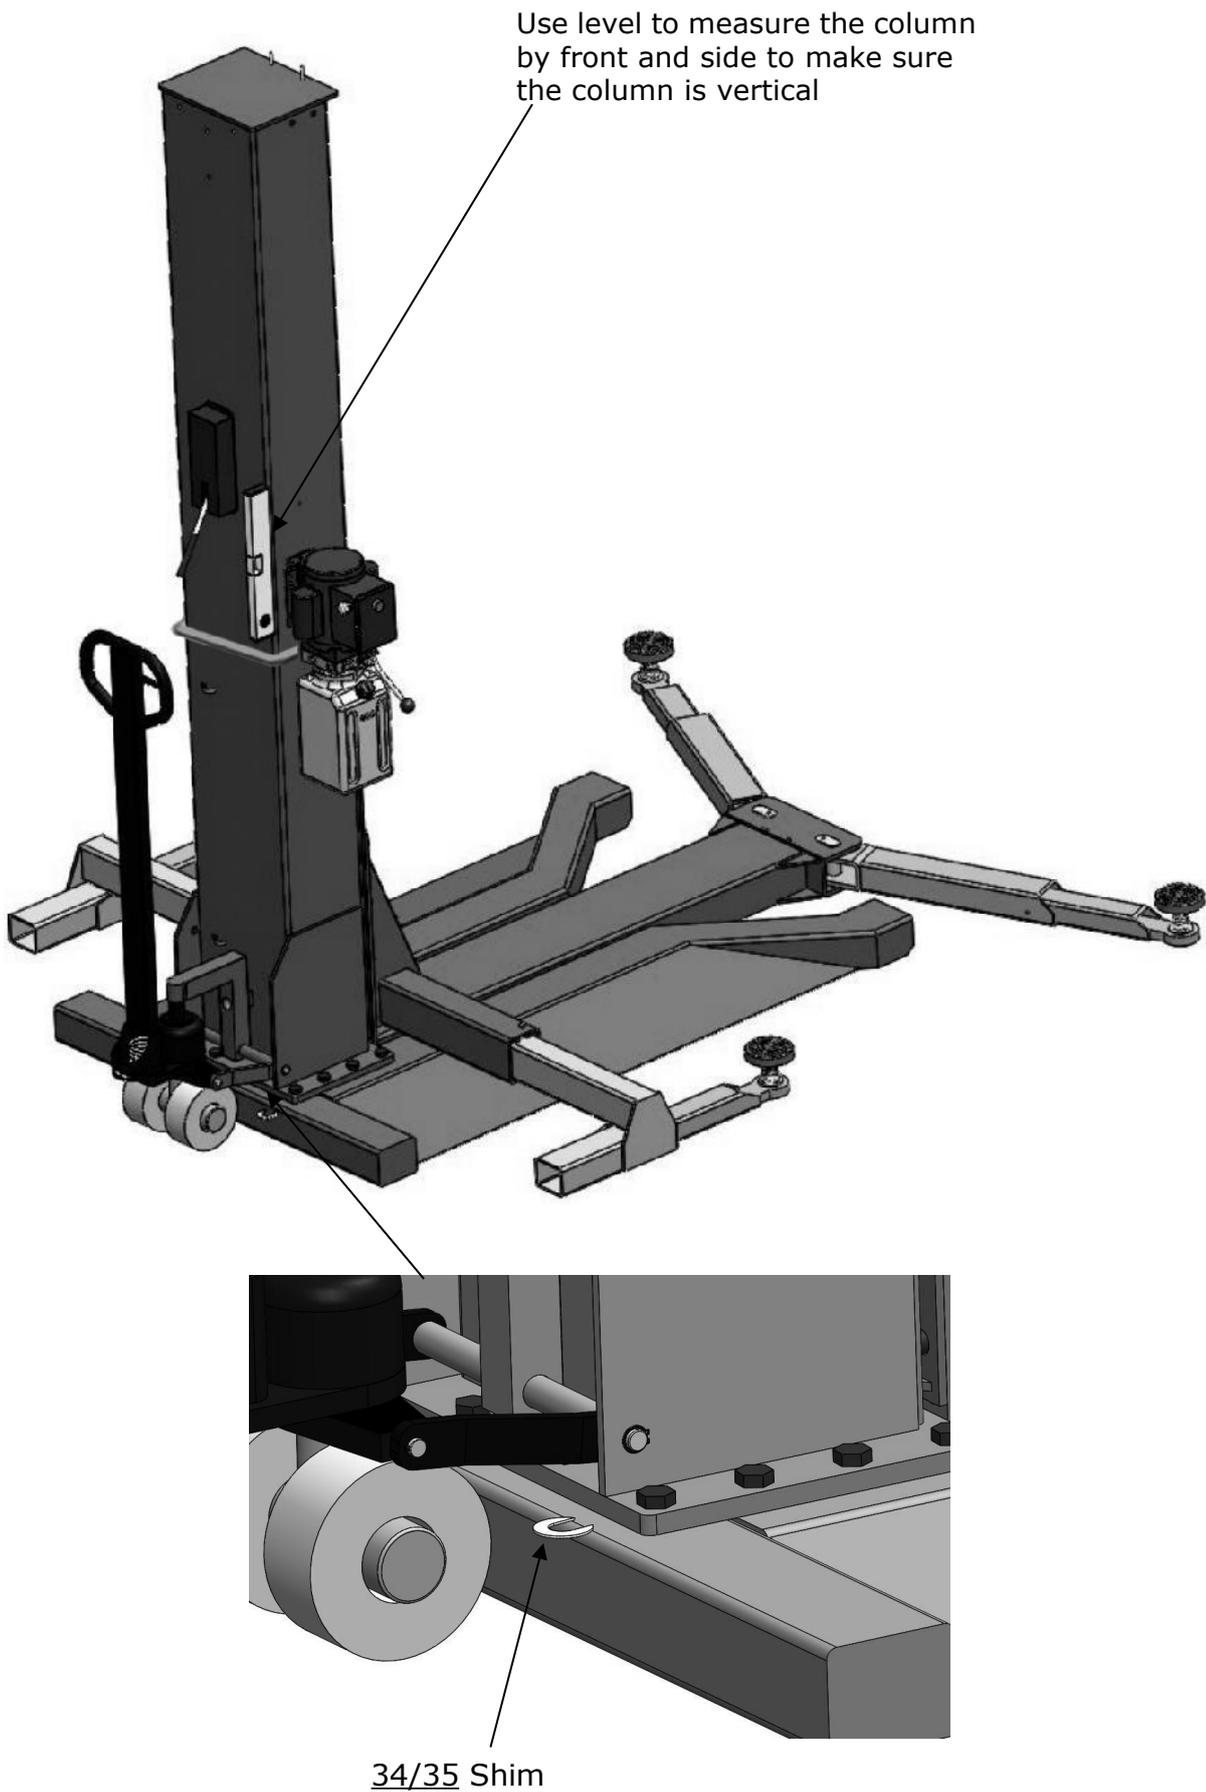

Fig.23
K. Using level to measure and adjust the column to be vertical (Fig.23).